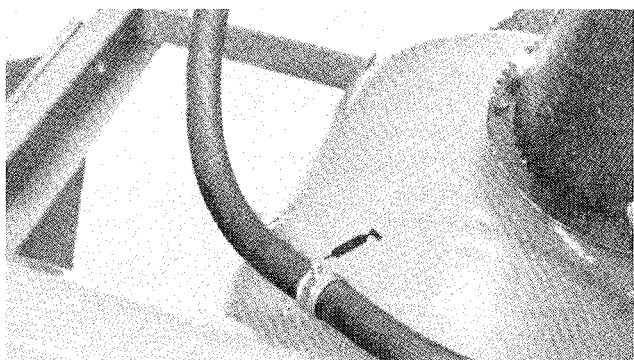

Figure 9
6. Grease flexible shaft (Fig. 9) with No. 2 lithium base grease until grease appears at each end of flexible shaft.